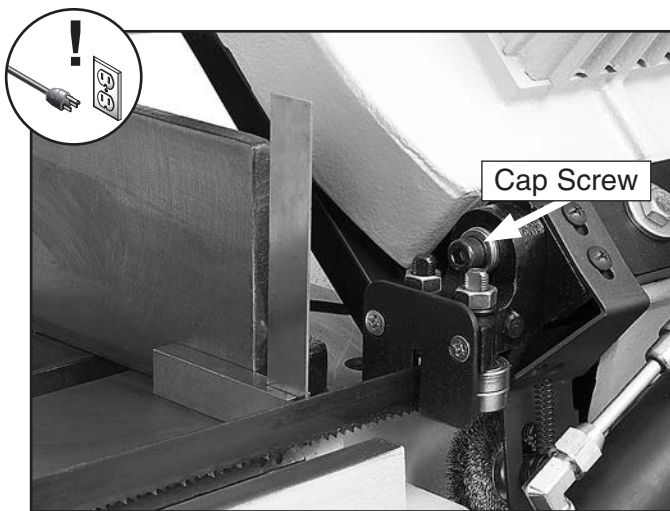

Figure 72. Square placed on table bed against edge of blade.
3. Place square on table bed and against edge of blade (see **Figure 72**), and check different points along length of table between blade guides.
4. Loosen cap screw shown in **Figure 72**, and rotate blade guide until blade is vertical to bed.
3. Put square against face of vise and move it over to blade (see **Figure 72**).